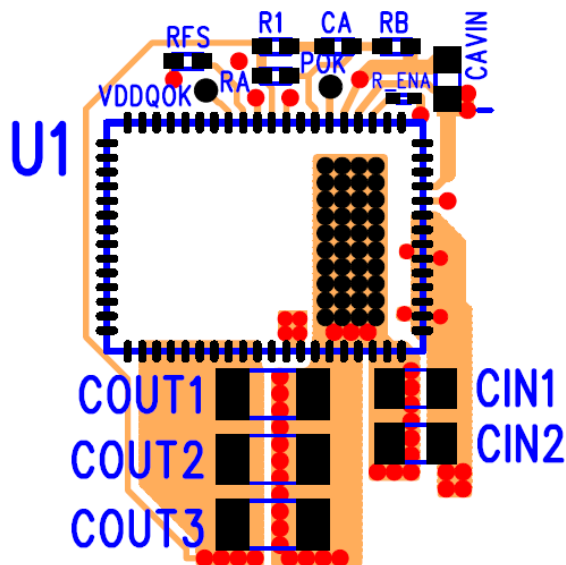
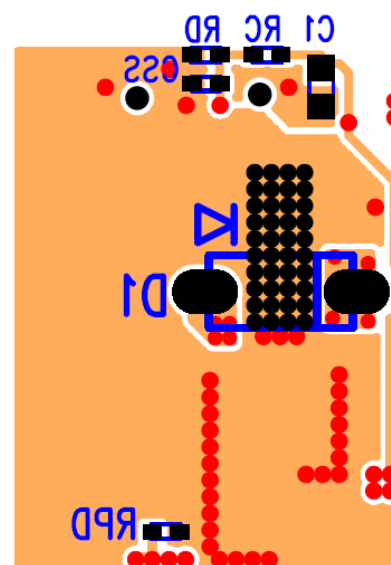

Figure 8: Top PCB Layer with Critical Components and Copper for Minimum Footprint (Top View)
Figure 9: Bottom PCB Layer with Critical Components and Copper for Minimum Footprint (Top View)
Figure 8 and Figure 9 shows critical components along with top and bottom traces of a recommended minimum footprint of the EV1380QI layout with ENABLE tied to  $V_{IN}$ . Alternate ENABLE configurations and other small signal pins need to be connected and routed according to specific customer application. Please see the Gerber files at [www.Intel.com/enpirion](http://www.Intel.com/enpirion) for exact dimensions and other layers. Please refer to Figures 8 and 9 while reading the layout recommendations in this section.
**Recommendation 4:** The large thermal pad underneath the component must be connected to the system ground plane through as many vias as possible. The drill diameter of the vias should be 0.33mm, and the vias must have at least 1 oz. copper plating on the inside wall, making the finished hole size around 0.20-0.26mm. Do not use thermal reliefs or spokes to connect the vias to the ground plane. This connection provides the path for heat dissipation from the converter. Please see Figures 8, 9, 10, and 11.
**Recommendation 5:** Multiple small vias (the same size as the thermal vias discussed in recommendation 4) should be used to connect ground terminal of the input capacitor and output capacitors to the system ground plane. It is preferred to put these vias under the capacitors along the edge of the GND copper closest to the +V copper. Please see Figure 8 and Figure 9. These vias connect the input/output filter capacitors to the GND plane and help reduce parasitic inductances in the input and output current loops. If the vias cannot be placed under  $C_{IN}$  and  $C_{OUT}$ , then put them just outside the capacitors along the GND slit separating the two components. Do not use thermal reliefs or spokes to connect these vias to the ground plane.
**Recommendation 6:** AVIN1 and AVIN2 are the power supplies for the internal small-signal control circuits. AVIN1 and AVIN2 should be powered by an external supply. In Figure 8, the filter capacitor  $C_{AVIN}$  is connected closely from the AVIN1 and AVIN2 pins to AGND for proper filtering of the control circuit.
**Recommendation 7:** The layer 1 metal under the device must not be more than shown in Figure 8. See the section regarding exposed metal on bottom of package. As with any switch-mode DC-DC converter, try not to run sensitive signal or control lines underneath the converter package on other layers.
**Recommendation 9:** Keep  $R_A$ ,  $C_A$ ,  $R_1$  and  $R_B$  close to the VFB pin (see Figure 8). The VFB pin is a high-impedance, sensitive node. Keep the trace to this pin as short as possible. Whenever possible, connect  $R_B$  directly to the AGND pin instead of going through the GND plane.
**Recommendation 12:** The Schottky diode D1 should be connected with anode to SW and cathode to VDDQ with very low inductance traces. Place D1 directly under the device as shown in Figure 9. Vias near SW and VDDQ connect these pins to the D1 terminals. The recommended diode for this layout is ST Microelectronics TMBYV10-40FILM. Contact Power Applications support for alternate options for this diode.